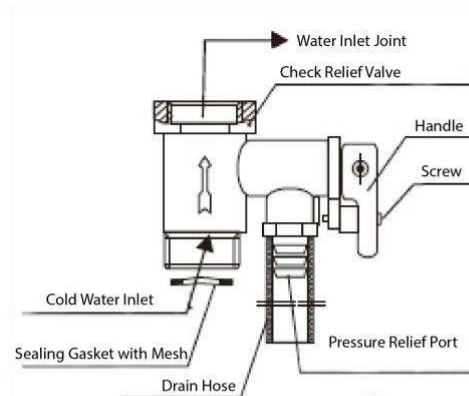

Figure 3
The safety valve (caution: check the regulations in force in your country to ensure safety valves are authorized), factory original identification 0.8MPa, in the accessories shall be installed on the water inlet joint (as shown in Fig 3), and the raw material belt shall be wound to ensure sealing. The arrow direction shall be consistent with the water inlet flow direction of the electric water heater (as shown in Fig 3). The net sealing gasket shall be installed at the cold-water inlet of the safety valve, and the drainage hose at the pressure relief outlet of the safety valve shall be installed to maintain a continuous downward inclination. It shall be installed in a frost-free environment, and then extended to the ground leakage, kept connected with the atmosphere, and properly fixed to prevent scalding by discharging hot water or steam.
- Under normal use, the handle of the safety valve (Fig. 3) should be opened regularly to remove calcium carbonate deposition. The method is: pull the discharge handle upward to the horizontal position (if the handle is equipped with screws, remove the screws with a screwdriver before doing this action), and confirm whether the safety valve is blocked (whether there is water discharge). If it is blocked, please contact the maintenance department.